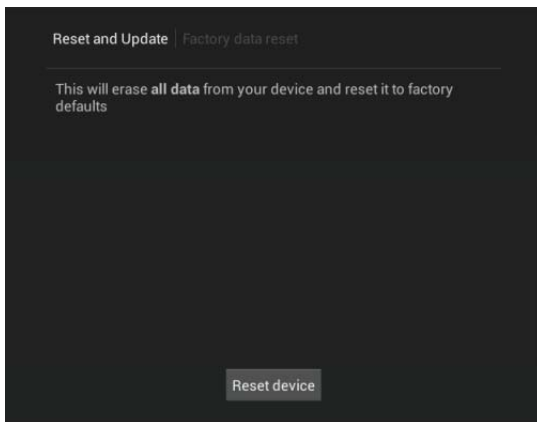

FIG. 87 Factory Data Reset window
1. Under *DEVICE RESET*, press **Factory Data Reset** to open the *Factory Data Reset* window (FIG. 87).